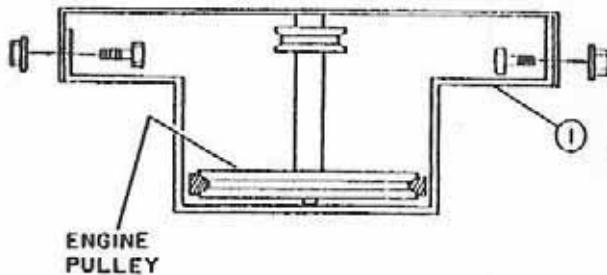

FIGURE 12
- g) **On tractor with manual PTO clutch:** Remove the belt guide on the tractor engine attachment drive pulley and install the bent flat bar drive pulley guide (fig. 12, item 1) inside the tractor frame. On the left hand side, use the tractor hole 7 11/16" from the center of the front axle. The left hand side of the guide should be higher. On the right side, use the hole 8 5/16" rear of the center of the front axle. Secure tightly with two 3/8 X 3/4" bolts and nuts.